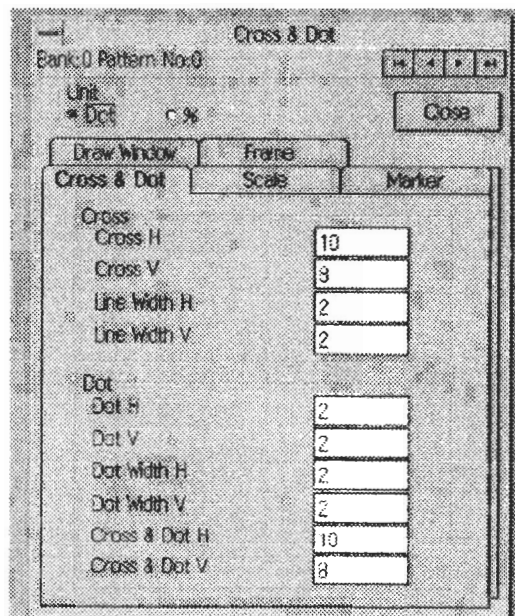

Figure 4-29
- * "Cross & Dot" card: Specifies crosshatch and dot parameters (Figure 4-29).